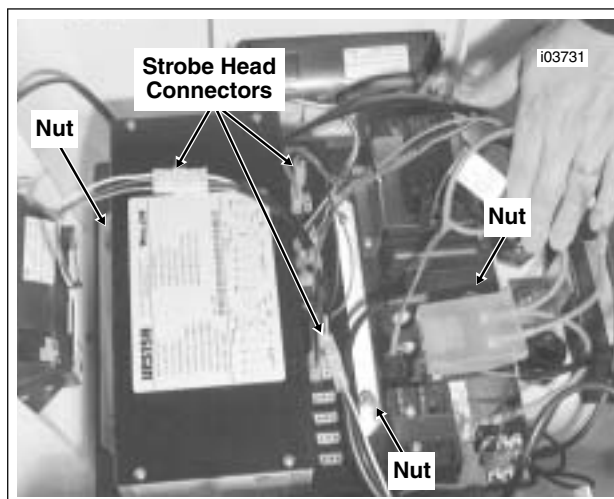

Figure 8-33. Remove Plate Securing Power Supply
2. See Figure 8-33. Carefully remove Tour-Pak assembly and hardware from shipping container. Open Tour-Pak. Remove the three nuts securing the power supply mounting plate to the bottom of the Tour-Pak. Save for reinstallation.